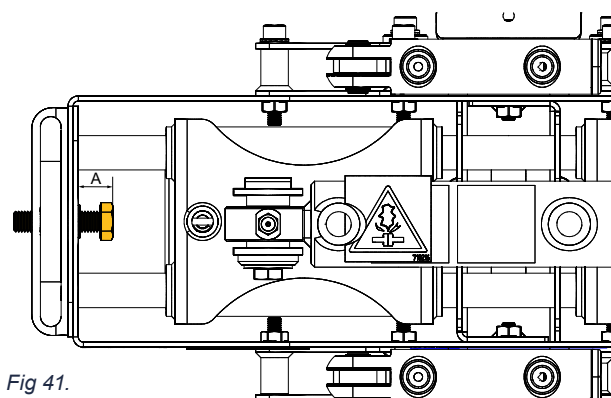

Fig 41.
1. Set the stop screw distance A, Fig 41 to its minimum.
3. Screw the stop screw Fig 41 until it touches the bracket. Tighten the nut.